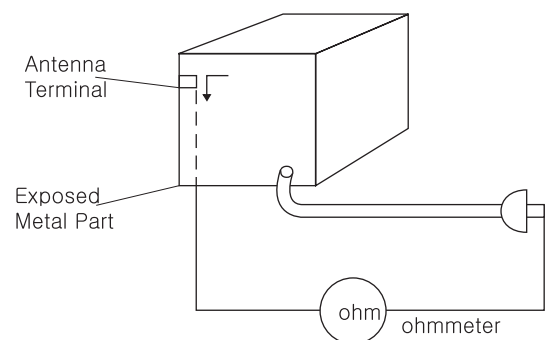

Fig. 1-2 Insulation Resistance Test
(4) Insulation Resistance Test Cold Check-(1) Unplug the power supply cord and connect a jumper wire between the two prongs of the plug. (2) Turn on the power switch of the instrument. (3) Measure the resistance with an ohmmeter between the jumpered AC plug and all exposed metallic cabinet parts on the instrument, such as screwheads, antenna, control shafts, handle brackets, etc. When an exposed metallic part has a return path to the chassis, the reading should be between 1 and 5.2 megohm. When there is no return path to the chassis, the reading must be infinite. If the reading is not within the limits specified, there is the possibility of a shock hazard, and the instrument must be repaired and rechecked before it is returned to the customer. See Fig. 1-2.